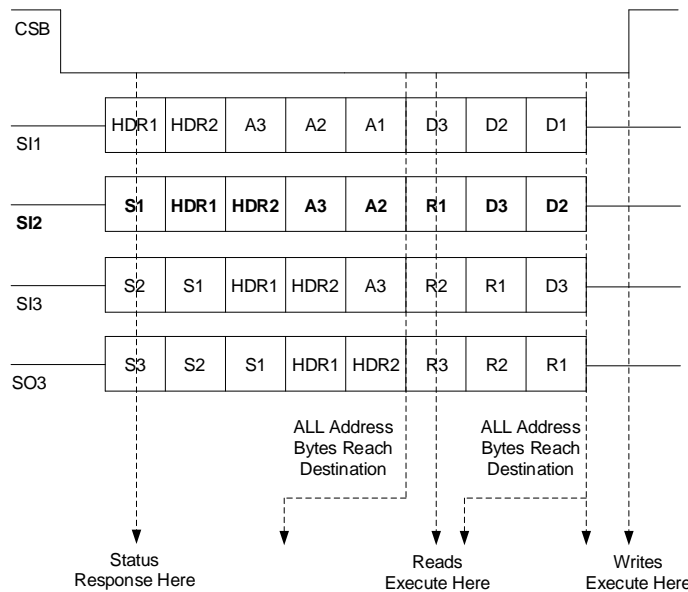

Figure 20. Daisy Chain SPI Operation
The device is designed to support daisy chain operation with other devices that utilize the same SPI protocol, as demonstrated in Figure 20. In this setup, the controller's output (MO) is connected to the serial input (SI) of the first target device. The serial output (SO) of this device is then connected to the SI of the next target, forming a chain. The SO of the last target in the chain is linked to the controller's input (MI), completing the SPI communication loop.
In the daisy chain configuration depicted above, the first device in the chain receives data from the controller in the following format, as shown in SI1 of Figure 20:
Once the data has been transmitted through the chain, the controller receives it back in the format illustrated in SO3 of Figure 20:
The device is capable of determining its position in the chain by counting the number of Status bytes that follow the Header byte. As illustrated in Figure 20, Device 2 identifies its position by recognizing one Status byte (S1) following the Header, while Device 3 identifies two Status bytes (S1, S2) behind the Header. When the device determines the position and the total number of devices connected in the chain, each device can load the relevant address and data bytes into its buffer, effectively bypassing irrelevant bits. This method ensures efficient operation, even in a chain comprising up to 63 devices.